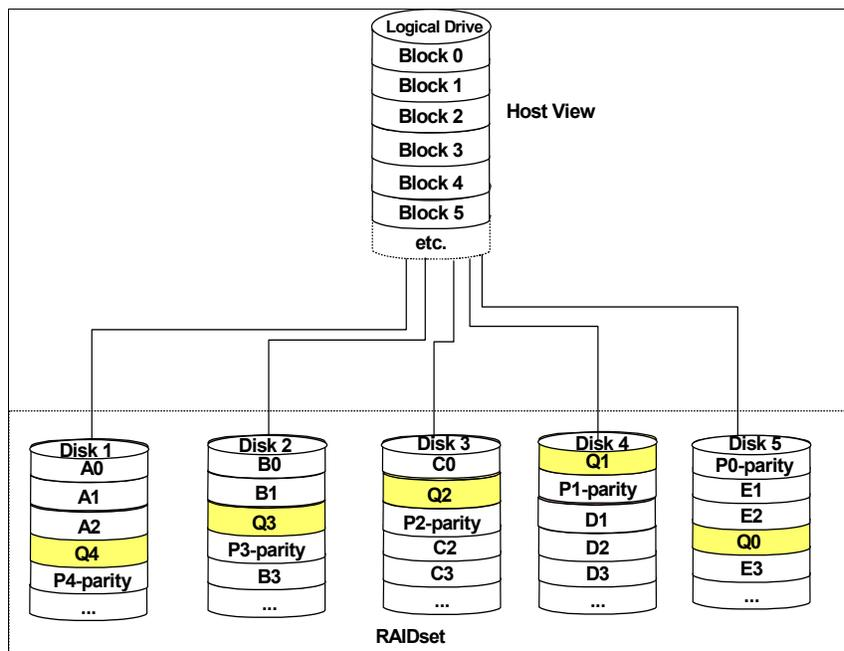

Figure 4-19 RAID-6
- ▶ RAID-6: High availability with additional fault tolerance (Figure 4-19 on page 145)